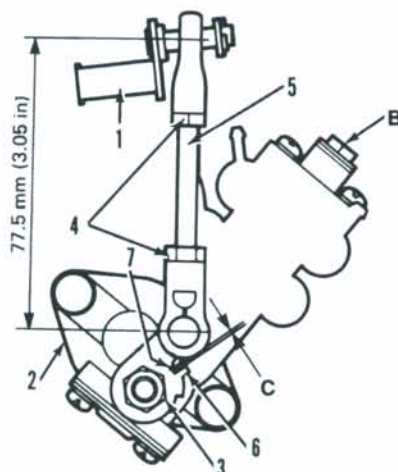

Fig. SZ11-41—View of oil injection pump and control linkage. Refer to text for control linkage adjustment.
CONTROL LINKAGE ADJUSTMENT. Make sure speed control linkage is properly adjusted. Initial length of pump control rod (5—Fig. SZ11-41) should be 77.5 mm (3.05 in.) as shown. With throttle in fully closed position, clearance (C) between lever stopper (6) and boss (7) on pump housing should be 1 mm (0.040 in.) or less, but stopper (6) should not contact boss (7). To adjust, loosen nuts (4) and adjust length of rod (5) as necessary. Make sure nuts (4) are securely tightened after adjustment. Af-
BLEEDING PUMP. To bleed trapped air from oil supply lines or pump, proceed as follows: Fill fuel tank with a 50:1 mixture of recommended gasoline and oil. Fill oil tank with a recommended oil. Loosen bleed screw (B—Figs. SZ11-41 or SZ11-42) two or three turns. Start engine and allow to idle at 650-700 rpm until no air bubbles are noted at bleed screw (B).